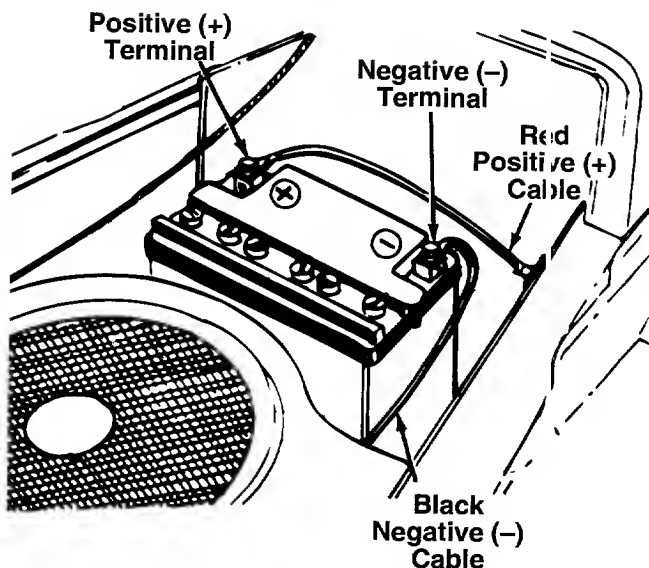

FIGURE 4.
3. Attach the positive cable (heavy red wire) to the positive battery terminal (+) with one hex bolt and hex nut. See figure 4.